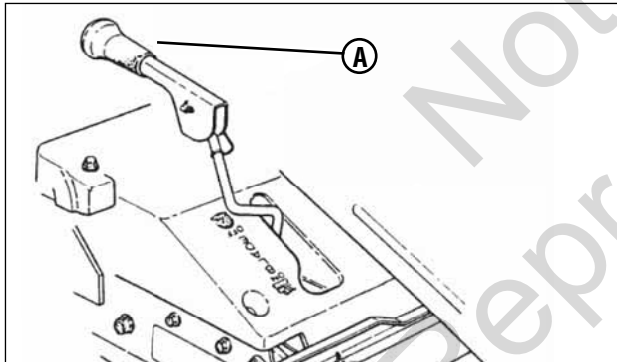

Figure 4: Blade lever (in ‘Off’ position)
2. Make certain the Blade Lever (A, Figure 4) is in the “OFF” position.
2. Make certain the Blade Lever (**A**, **Figure 4**) is in the “OFF” position.